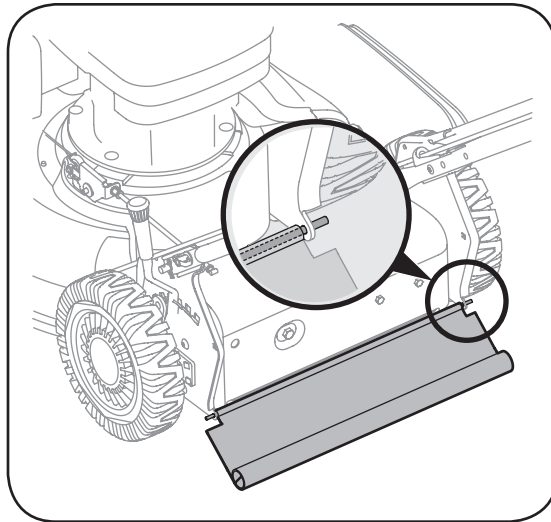

Figure 5-2
1. Cut off the flat end of the wire rod which secures it to the deck. See Figure 5-2.